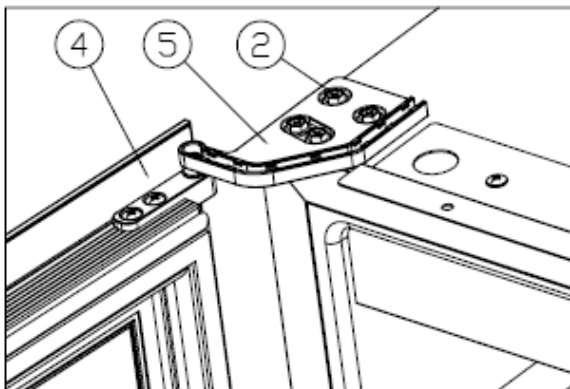

Figure 6
- ✧ Turn the door ④ 180 degrees, and insert the right lower hinge ⑤, screw tight M5\*16 screws ②. [Figure 6] Door reversing is finished.